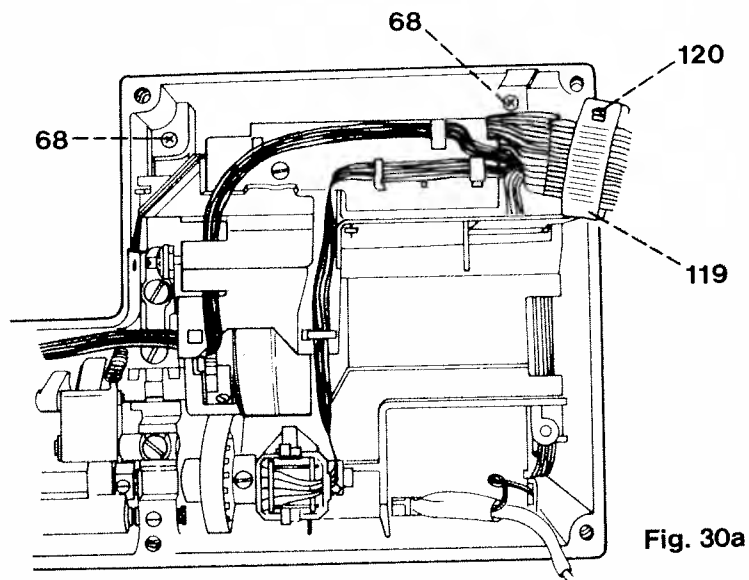

Fig. 30a
- Unscrew the two screws 68 (Fig. 30a).
- Open both cable clips 119 at catch 120 (Figs. 30a and 30c).
- Insert the two screws 68, press the programming panel against the machine and tighten the screws (Fig. 30a).
- Install all flat cables according to Fig. 30a and fit both cable clips.